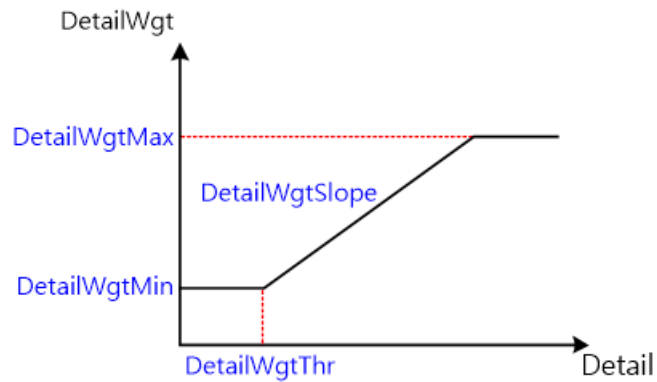
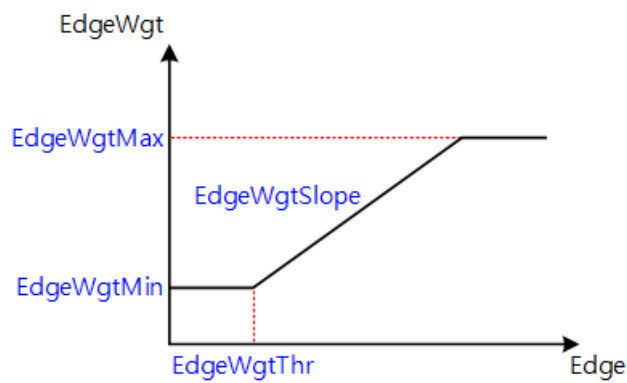

Fig. 5.17: The relationship curve between detail size Detail and smoothing intensity DetailWgt during detail smoothing
Fig. 5.18: The relationship curve between edge intensity and smoothing intensity EdgeWgt during edge smoothing
Step 4. Adjust the parameter **DetailSmoothStr** to reduce the false details caused by the sensor sensitivity and noise when Demosaic, which affect the direction judgment, especially in the highly dense line texture area. False detail suppression function can make details more natural. The larger the **DetailSmoothStr** is, the stronger the detail smoothing function is. However, too much increase will lead to the loss of detail. As shown in Fig. 5.17, while smoothing the details, the range and strength of detail preservation are determined by the parameters **DetailWgtThr** and **DetailWgtSlope** respectively, and the upper and lower limits of detail preservation are controlled by **DetailWgtMin** and **DetailWgtMax**. In addition, as shown in Fig. 5.18, the parameters **EdgeWgtThr** and **EdgeWgtSlope** can be adjusted to determine the detail smoothing range and intensity according to the edge strength, and **EdgeWgtMin** and **EdgeWgtMax** can control the upper and lower limits of the smoothing intensity.